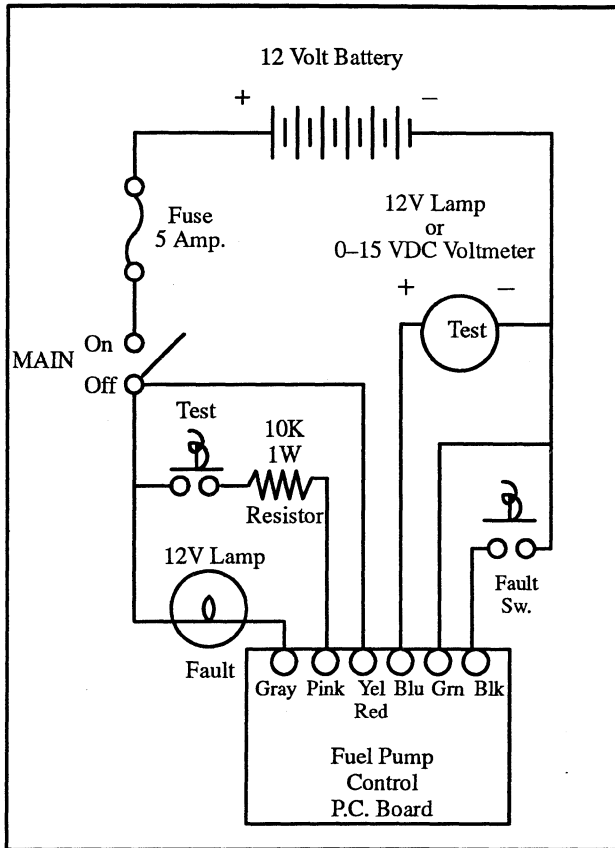

Figure 4-9. Fuel Pump Circuit Board Test
3. Connect colored leads to points as shown in Figure 4-9.